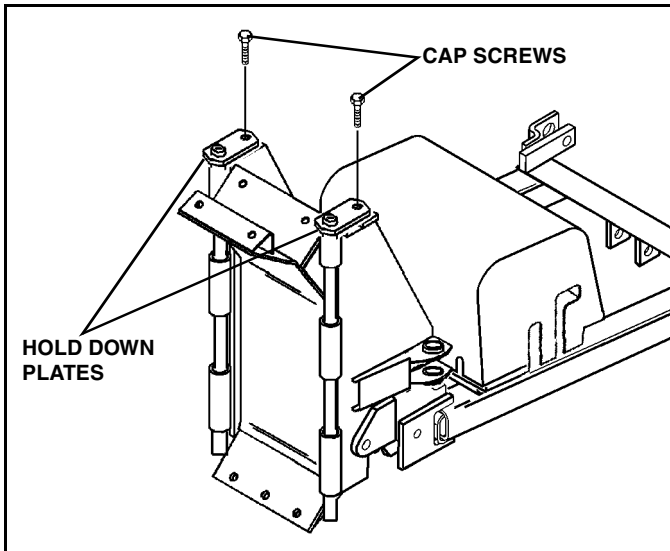

Figure 2-1
2. Remove the Cap Screws from the Hold Down Plates at the top of each of the two Wing Pivot Shafts and then remove the Pivot Shafts from the Center Blade Assembly. (See Figure 2-1)